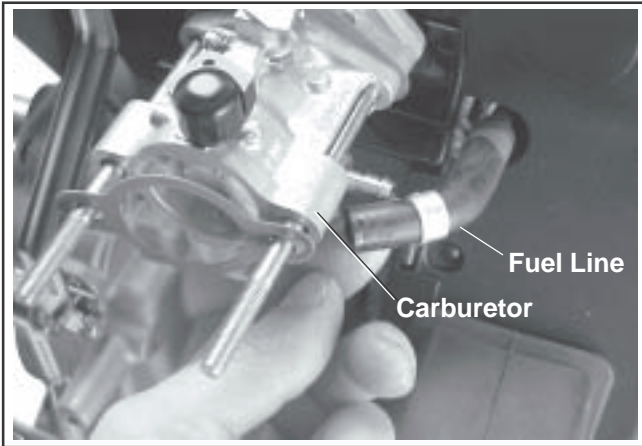

Figure 9-10. Removing Fuel Line From Carburetor.
1. Remove the fuel line from the carburetor inlet fitting. See Figure 9-10.